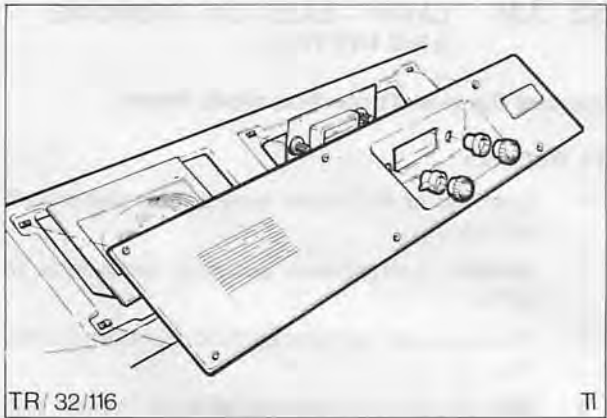

Fig. 16. Removing facia panel and radio control knobs
5. Remove radio control knobs if applicable, Fig. 16.